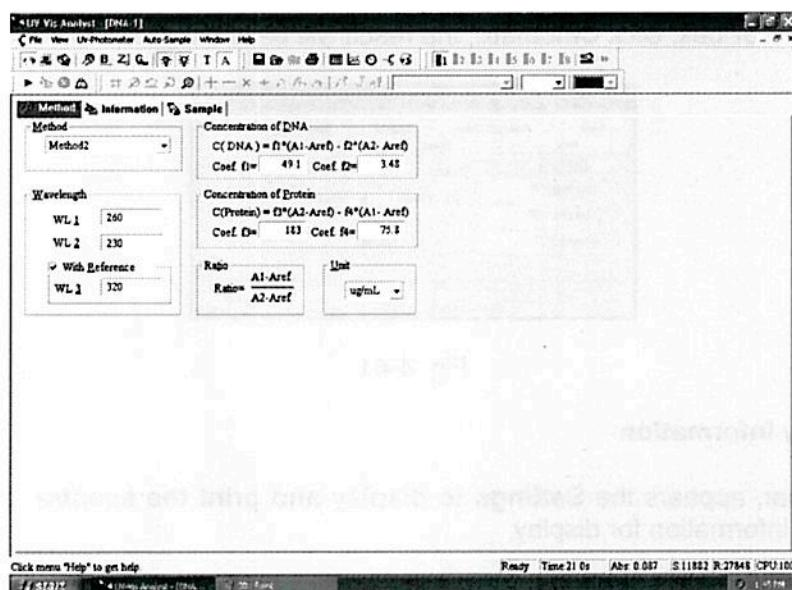

Fig. 4-44
1. Click on the toolbar, the following dialog box will appear (Fig. 4-44).